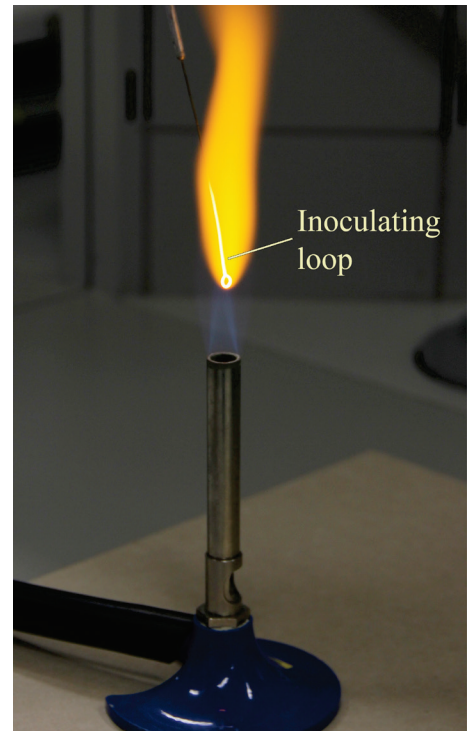

Fig. 11
11. Place the inoculating loop at the tip of the inner core of the blue flame, i.e. the hottest part of the flame. Flame the loop to red hot (Fig. 11) and allow it to cool down*.